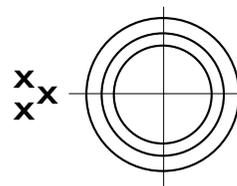

Fig. 4, point of impact, left
Turning the lateral adjustment screw against the arrow direction (R) results in an impact point shift on the target to the left (Fig. 4).